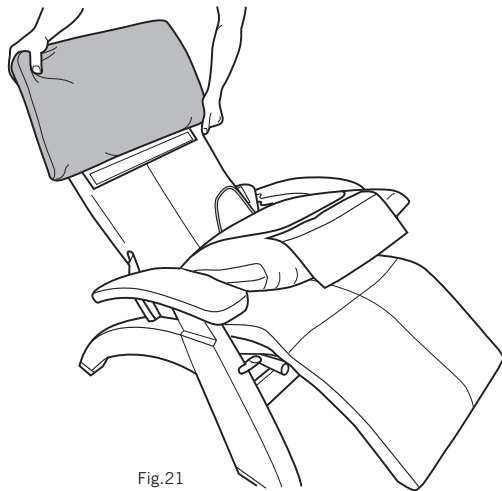

Fig.21
2. Slide the headrest pad over the head rest frame (Fig.21).